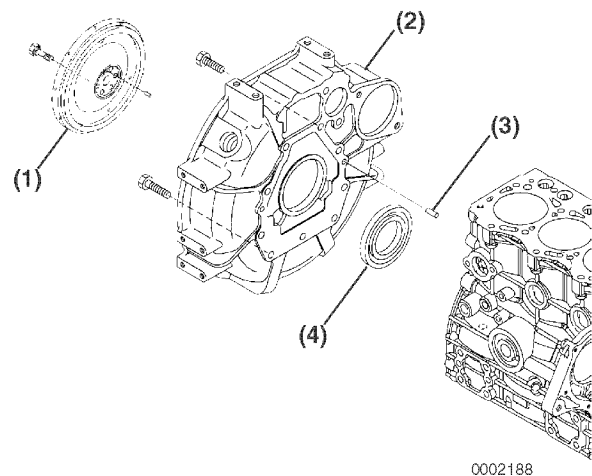

Figure 6-91
7. Apply ThreeBond Liquid Gasket No. 1212, Yanmar Part No. 977770-01212 to the mounting flange of the flywheel housing (**Figure 6-91, (2)**).
8. Align the flywheel housing with the two dowel pins (**Figure 6-91, (3)**).
10. Reinstall the flywheel (**Figure 6-91, (1)**) and tighten the bolts to the specified torque. See *Special Torque Chart on page 6-14*.